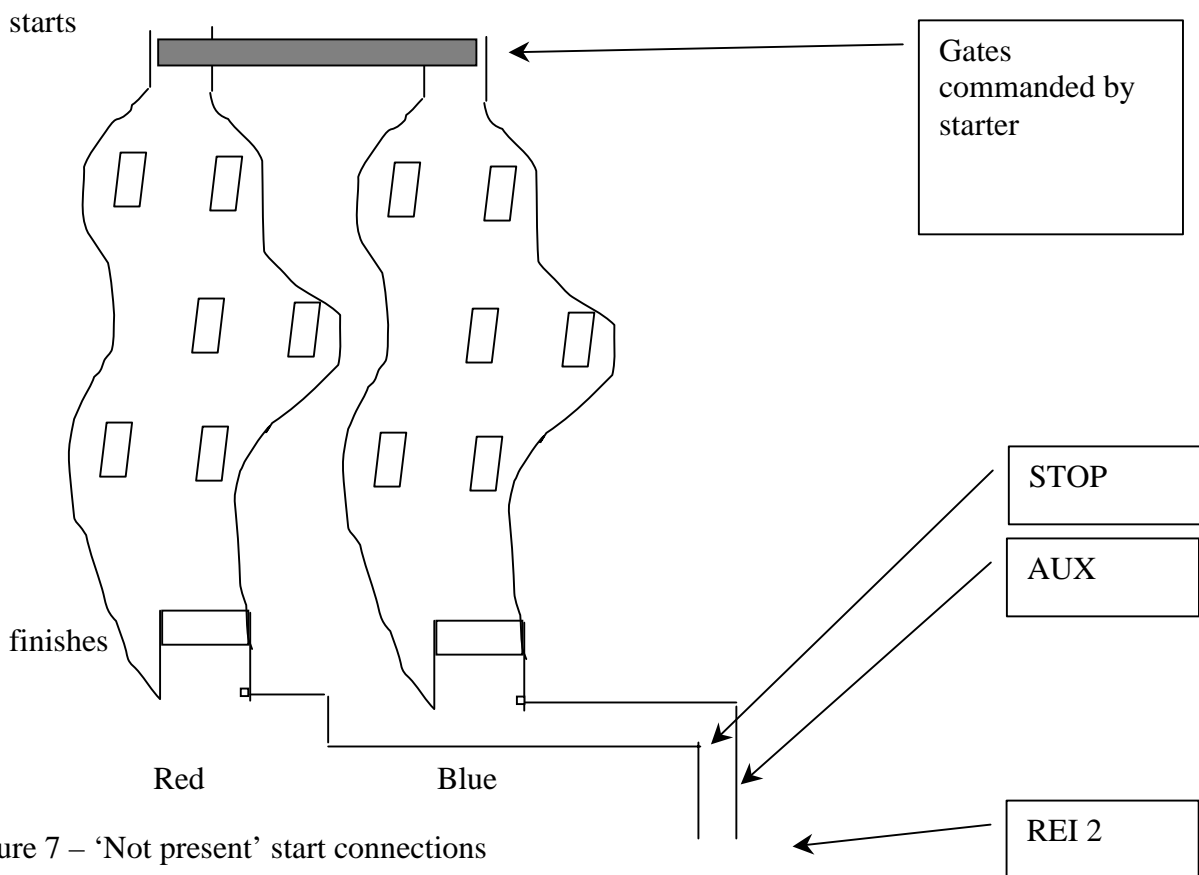

Figure 7 – 'Not present' start connections
- **Not present:** The start is not acquired, but only the finish events are acquired. The first finish taken starts the count of the second competitor's time gap. In the second run, the competitor who won the first starts with time at 0, the loser of the first starts with the time gap he/she has run up. See example in Figure 7